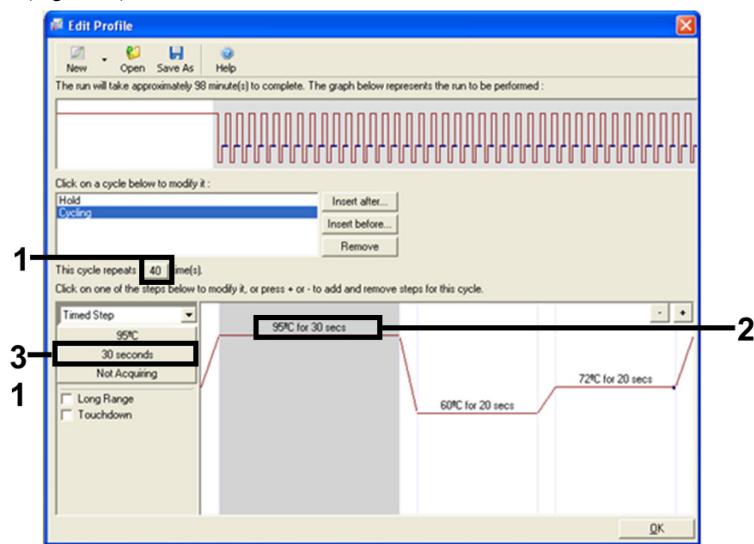

Figure 6. Cycling step at 95°C.
8. Change the number of cycle repeats to 40. Select the first step and set to 95°C for 30 seconds (Figure 6).